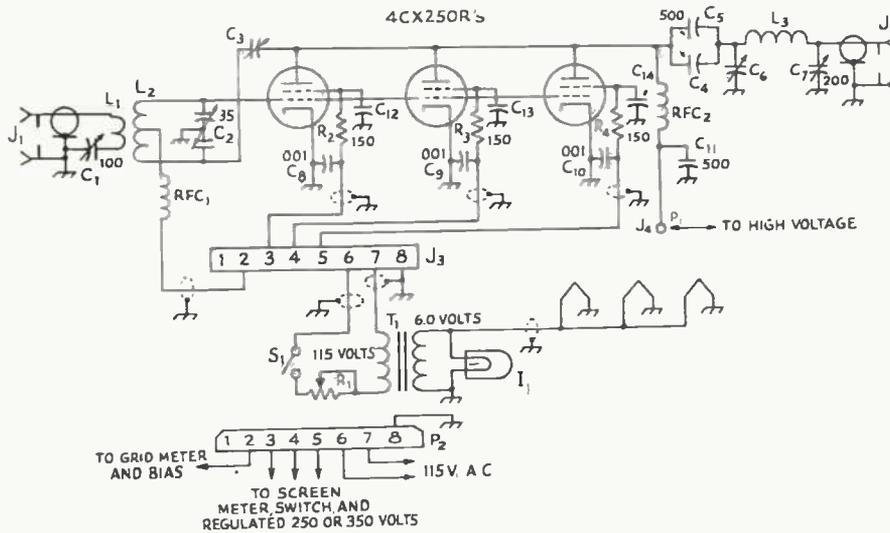
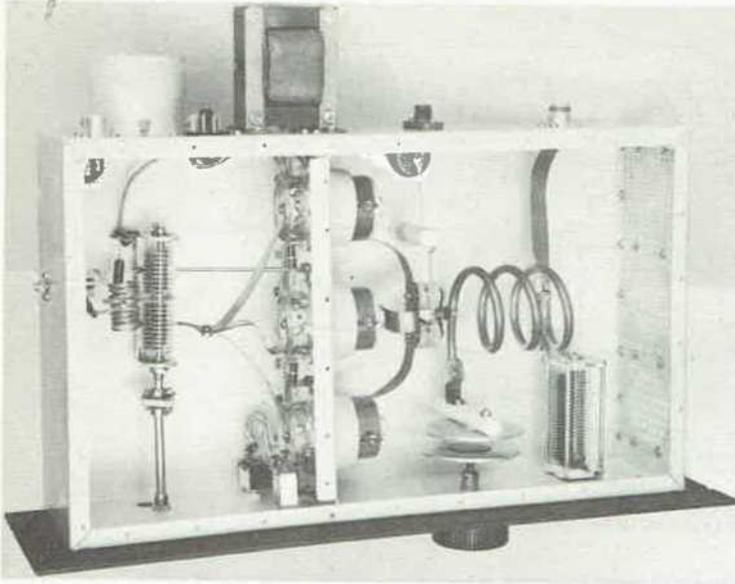
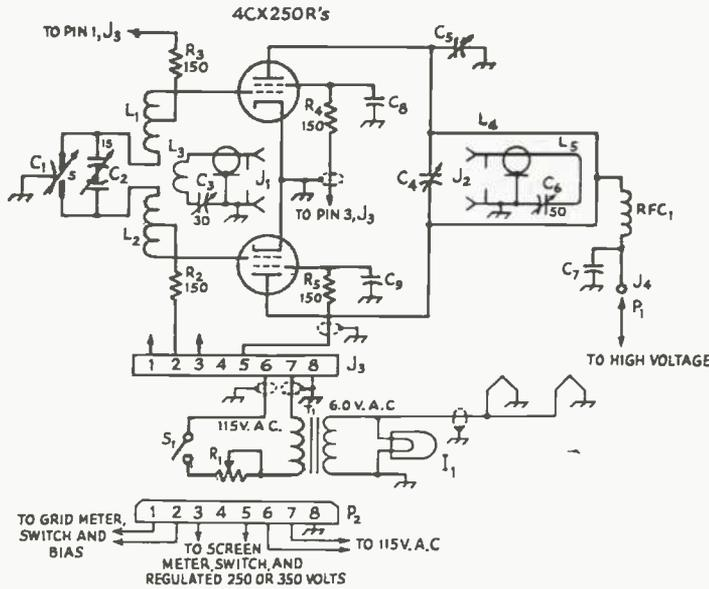

Fig. 6-39 — Schematic diagram and parts information for the 50-MHz amplifier.
Fig. 6-40 — Interior of the 50-MHz amplifier. Note method of paralleling grid and plate connections.
Fig. 6-42 — Schematic diagram and parts information for the 144-MHz amplifier.
- C6 — Tuning capacitor made from 3-inch aluminum disks — see text and Fig. 6-40.
Looking at the interior view, Fig. 6-40, we see the grid compartment at the left. The coaxial input fitting, J1 in Fig. 6-39, is in the upper left corner of the picture. Coax runs from this, out of sight on the left wall, terminating in a loop, L1, made from its inner conductor. This is inserted between turns at the center of the grid coil, L2. The series capacitor, C1, is just visible on the left chassis wall. It is not particularly critical in adjustment, so no inconvenience results from its location away from the front panel.
The disk tuning capacitor can be made in several ways. Flashing copper is easy to work, and the 144-MHz capacitor was made of this material. A more sturdy disk can be made from 1/8-inch aluminum. Those shown in Fig. 6-40 were 3-inch meter cutouts from an aluminum panel. Disk-type neutralizing capacitors (if you can find them; they're not common catalog items these days) provide ready-made disks and lead screw for tuning. For the latter we used 3-inch 1/4-20 brass screws from a neighborhood hardware store. A panel bushing with brass nuts soldered to it provided the lead-screw sleeve. The stationary disk is supported on 1/2-inch-diameter Teflon rod, a material also used for the rf choke form. Teflon works easily and is unexcelled for insulating applications where high temperatures are encountered. We found it reasonably priced, in various diameters, at a local plastics house.
The plate rf choke, RFC2, is important. You'll probably have to make it to get one of sufficiently good quality. For more on this see information under Fig. 6-39 and "RF Chokes for the VHF Bands," Chapter 16. Two coupling capacitors were paralleled because we've experienced trouble with exploding capacitors in pi-network plate circuits in
At the tube end of the plate line, L4 in Fig. 6-42, we have brass castings normally used to join sections of the copper pipe. They make a nice sliding fit over the tube anodes. For tighter fit, cut thin brass shim stock and insert as much as needed between the anode and the sleeve. The end of the fitting can be slotted and then clamped firm on the anode with a hose clamp, as an alternative. The short at the B-plus end of the line is made with two T fittings, with their flanges cut down to 1/2 inch and slipped over a short section of the pipe that is not visible. Joints throughout the assembly were silver-soldered with a torch, but conventional soldering should do equally well. The flanges at the
The last instruction and the information about the plate line given under Fig. 6-42 apply only if the fittings are identical to those obtained by the builder. Since there are several types of fittings available from plumbing supply houses, the following overall dimensions should be heeded: tube end of the plate line to center-line of short — 10 3/8 inches; spacing of pipes center to center — 3 1/2 inches.
These amplifiers were tested without neutralization and we almost got away with it, but use of all modes, particularly a-m linear and ssb, imposes strict requirements on stability. Conventional cross-over neutralization employed in the 144-MHz amplifier is omitted from Fig. 6-42 in the interests of clarity. The schematic representation, C3 in Fig. 6-39, is not very informative either.
In the 50-MHz amplifier the lead visible in Fig. 6-40, attached to the rear stator terminal of C2, runs to a polystyrene feedthrough bushing (National TPB) mounted in the partition between the rear and middle sockets. Even this bushing's wire stub projecting into the plate compartment turned out to be too much "C3" and it was trimmed off 1/16th inch at a time, until minimum feedthrough was indicated on a wavemeter coupled to L3 and tuned to the driving frequency.